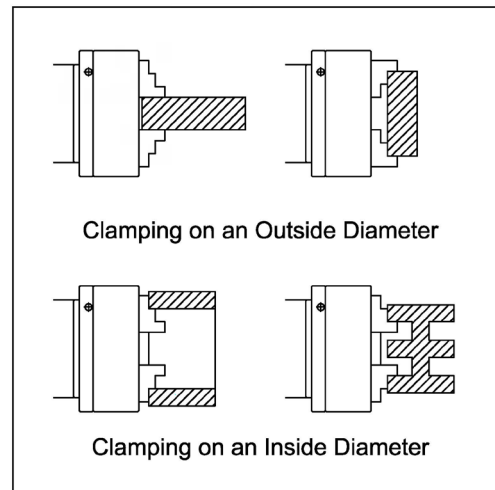

Figure 30. Examples of workpiece mounted in the 3-jaw chuck.
3. Use the chuck key to move the jaws and mount the workpiece to the chuck, similar to one of the methods shown in Figure 30. Make sure the workpiece is mounted firmly on the chuck.